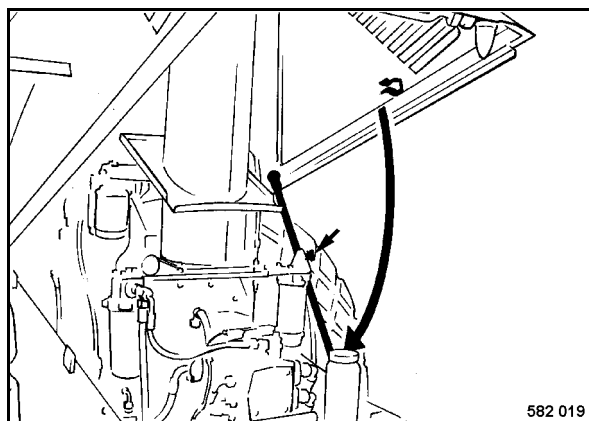

Fig. 47
- Pull the support (Fig. 47) out of the bracket in the hood and hook it at the bottom into the frame or at the top into the traverse.